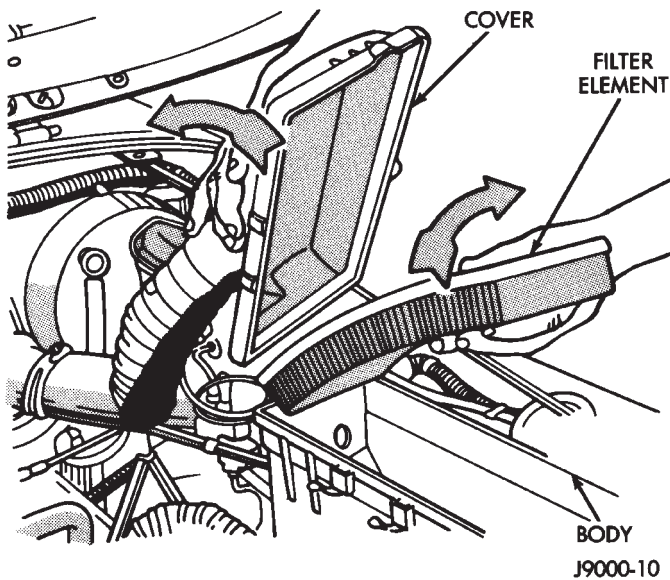

Fig. 9 Air Cleaner & Filter Element—2.5L and 4.0L Engines
(1) Remove the air cleaner cover from the body/housing (Fig. 9).